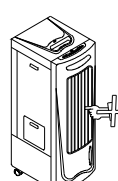

Fig11
13. Never push fingers or objects into the louver. (Fig. 11)